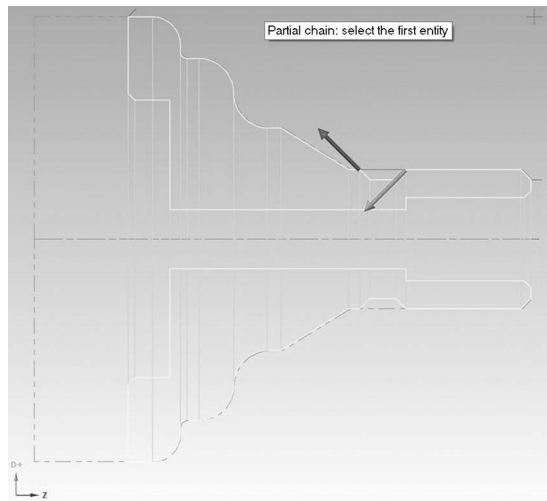

Figure 5-70 Groove Chain
- Follow the prompt to select the last entity in the chain, as shown in Figure 5-70.